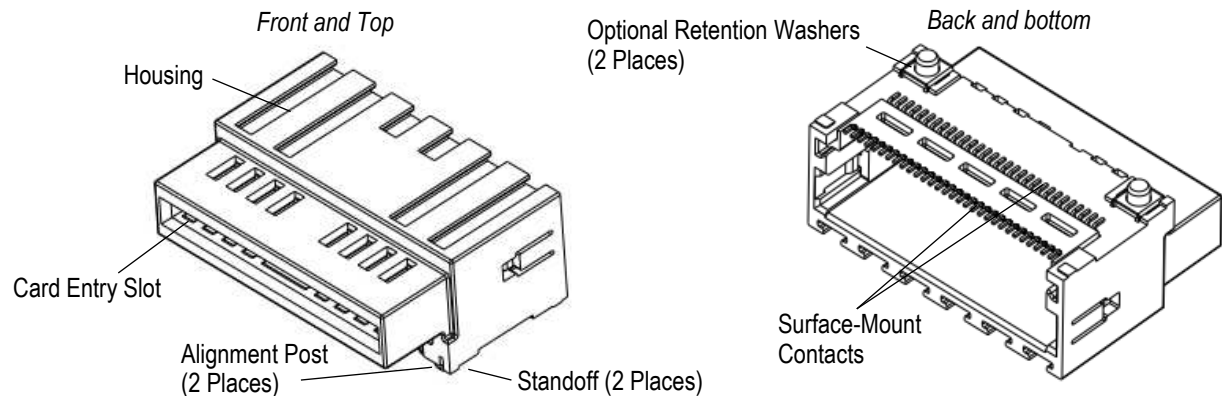

Figure 1
Basic terms and features of this product are provided in Figure 1.
- Added new connector information in Figure 1.